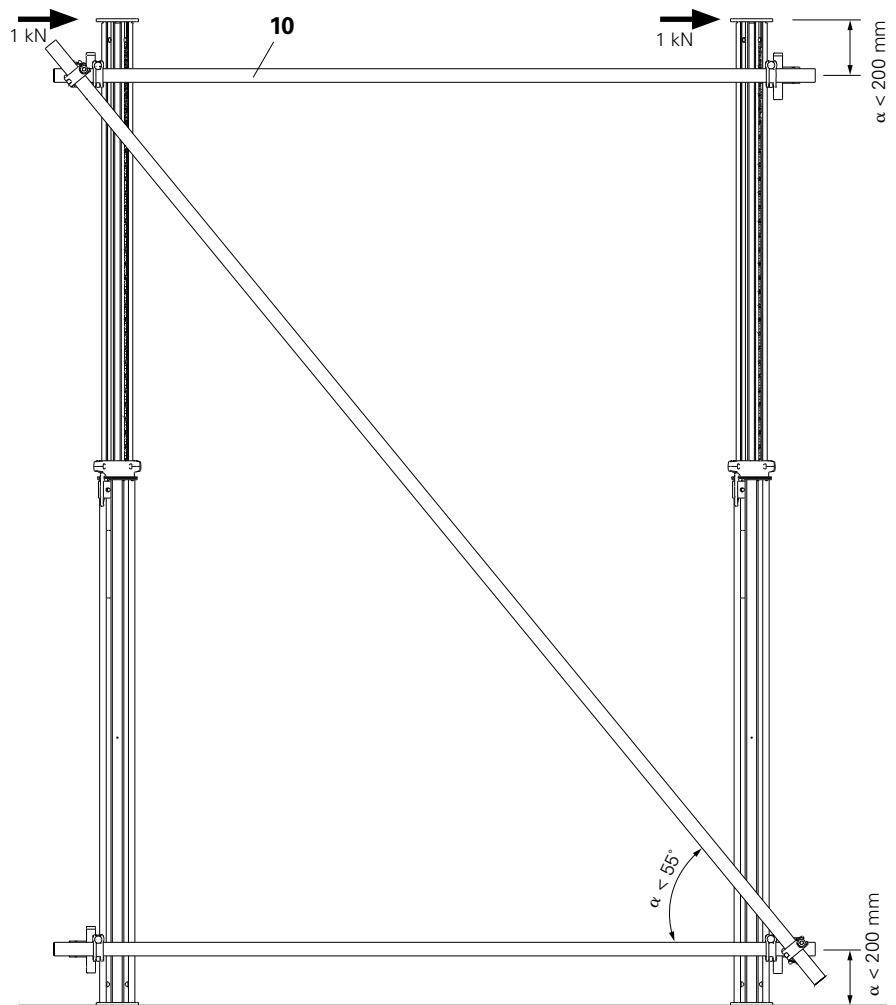

Fig. B1.01
Horizontal scaffold tube bracing may be used as an assembly aid. They consist of Scaffold Tubes  $\varnothing$  48 mm (10) and MULTIPROP Scaffold Tube Couplers MG-A / C or MG-B / D (15). The bracing is installed in segments and towers, and is designed to stabilise the MP Props. (Fig. B1.01)